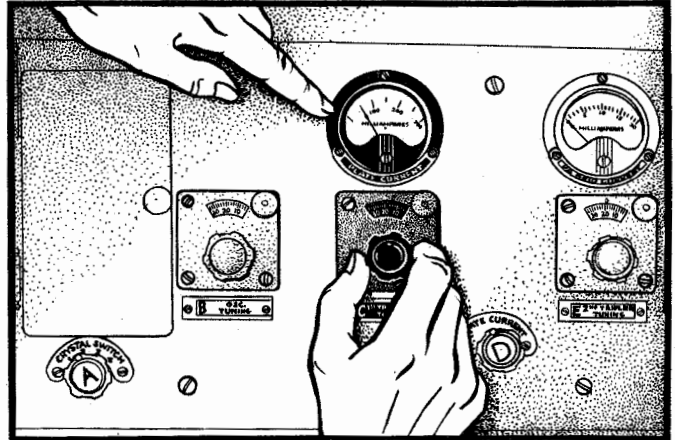

Figure 188
Step 6 (Figures 188 to 190 incl.)